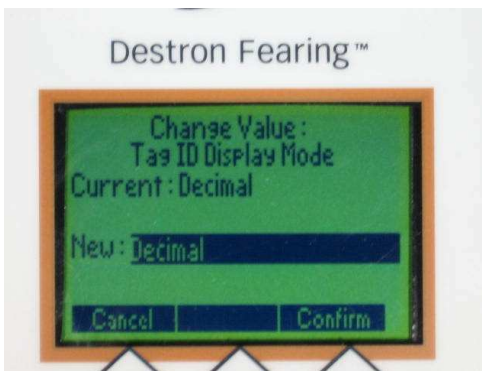

FIG. 98: Change Value ID Display Mode
3. Press the UP/DOWN Arrow Keys to select decimal or hexi decimal readings. See Fig. 98.
4. Press the CONFIRM Key to lock in the new setting. See Fig. 98.